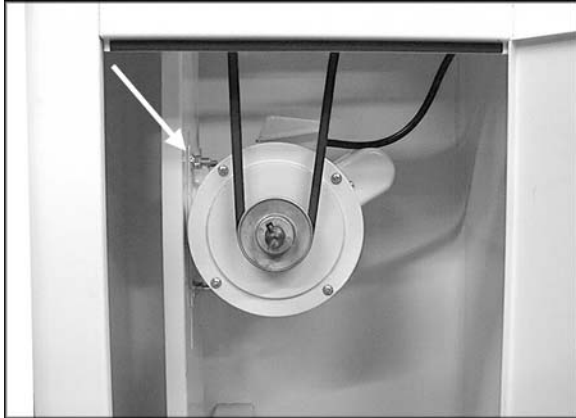

Figure 15
- Loosen the nuts on the four motor mounting bolts (Figure 15) and tension the v-belt by pushing down on the motor. Tighten the four motor mounting nuts.